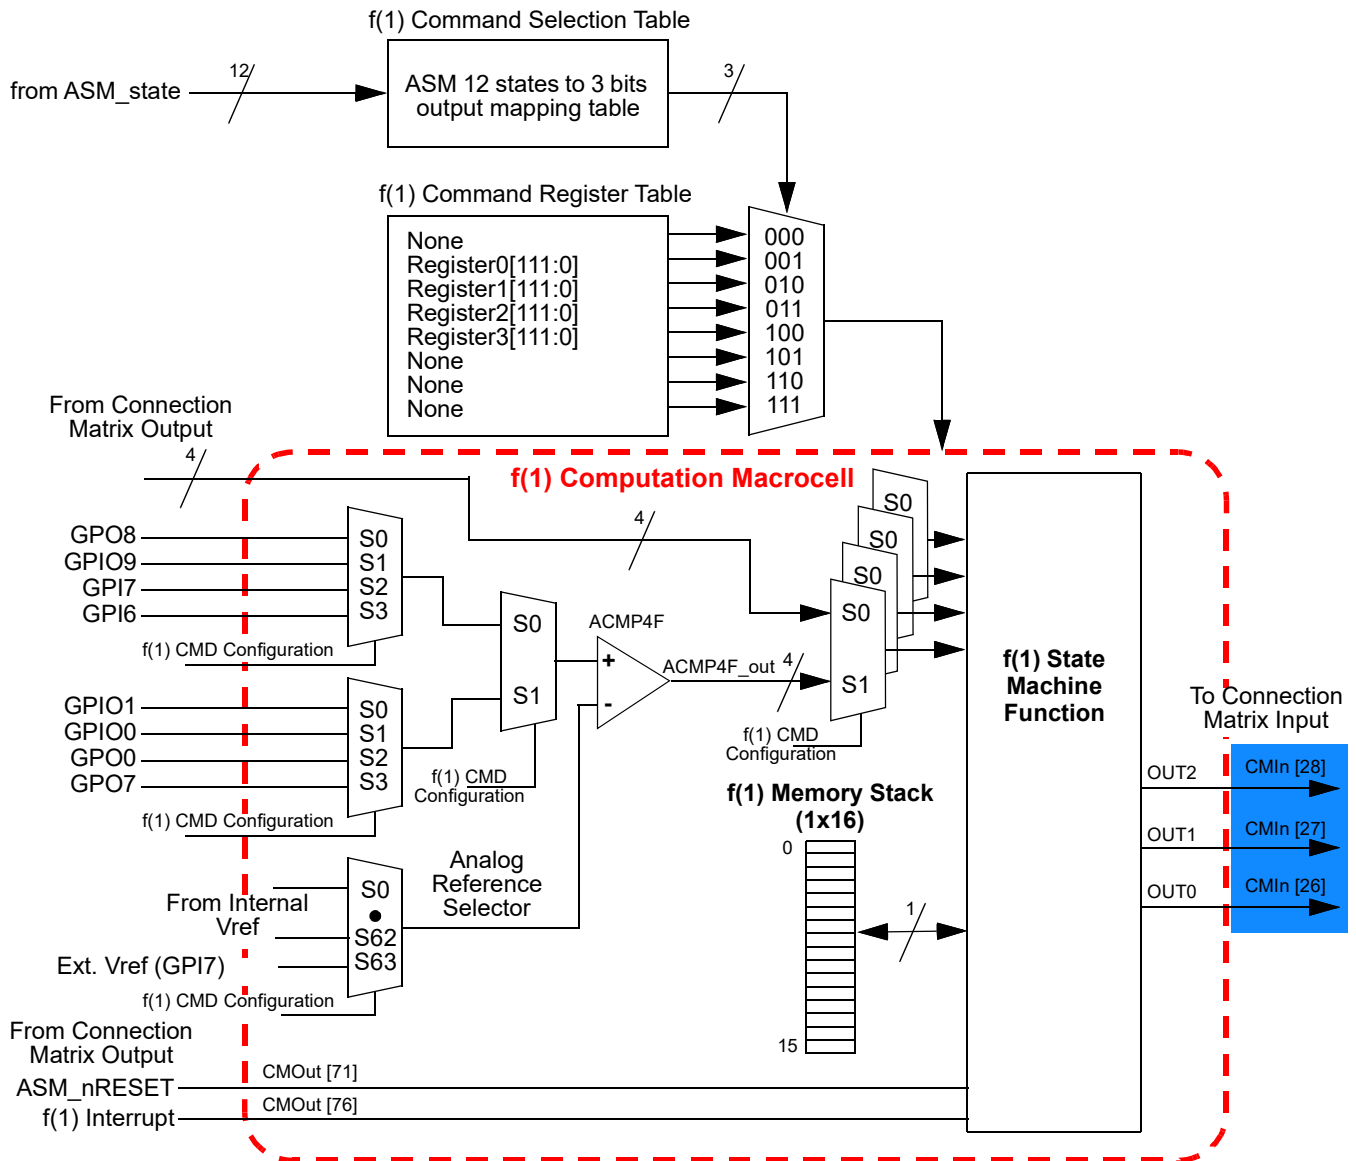

Figure 119: f(1) Computation Macrocell Output Signals
17.4 F(1) COMPUTATION MACROCELL OUTPUT SIGNALS
The f(1) Computation Macrocell has 3 digital output signals that go to the Connection Matrix, and from there can be routed to other internal macrocells or pins. These signals are shown in Figure 119, highlighted in blue. The state of these output signals are under user control, and are changed based on the Output commands.